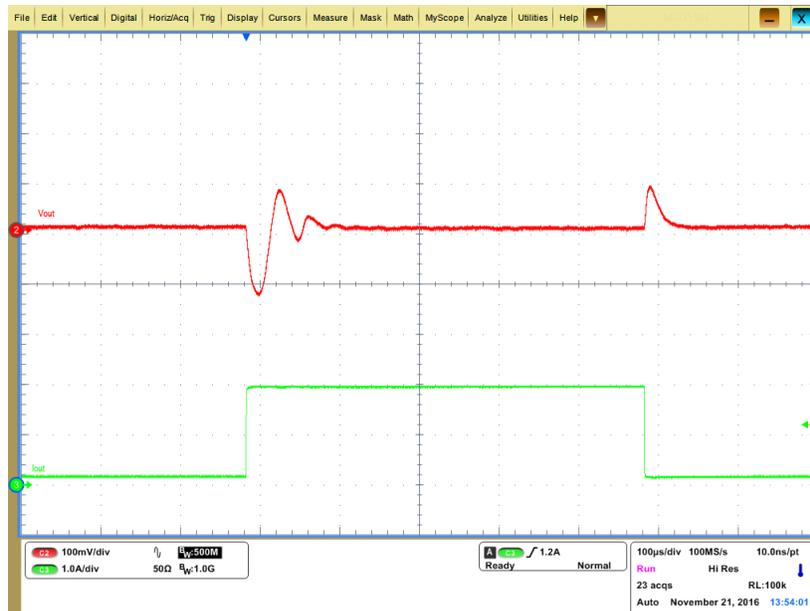

Figure 14. Load Transient Response, 3.9 V
- Load starts at 10 mA, goes to 2 A, then returns to 10 mA (Figure 14)